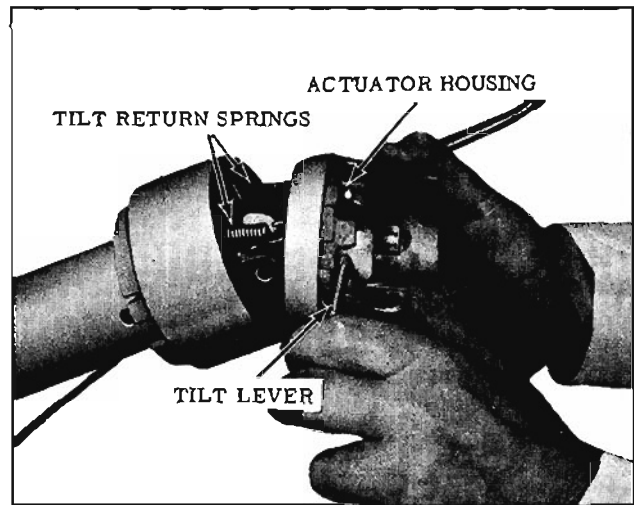

Fig. 8-113 Installing Actuator Housing
- NOTE: The loops on the upper ends of the springs must have the opening toward the top of the column. (Fig. 8-113)
install the actuator assembly over the steering shaft while guiding the turn signal cable and horn wire through the shift bowl. (Fig. 8-113)